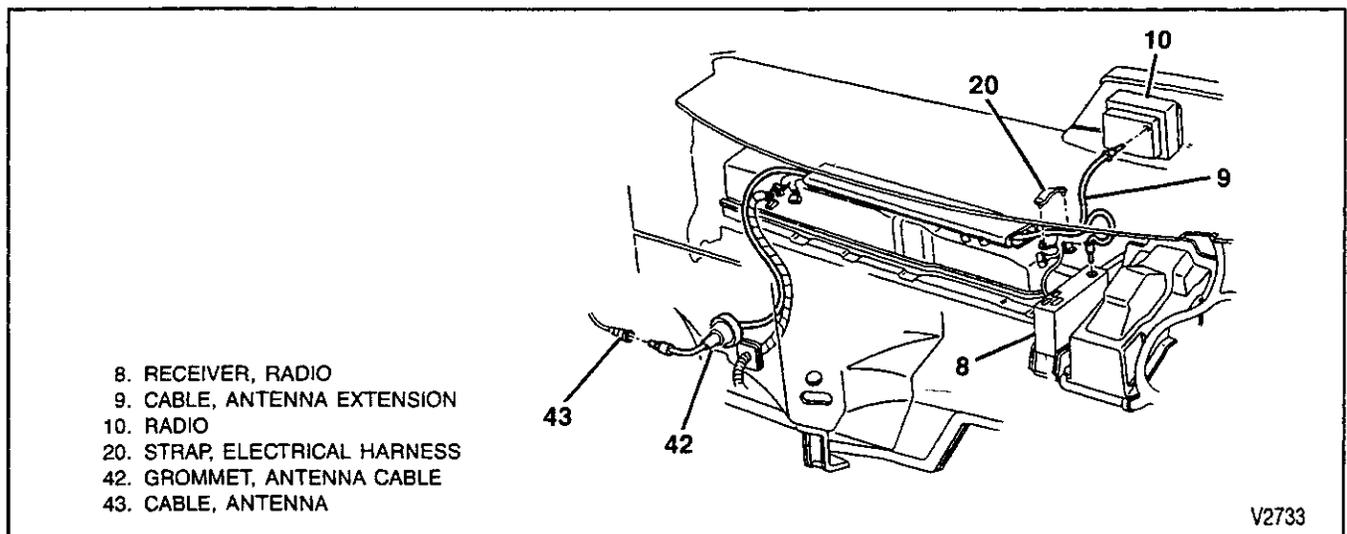

Figure 36—Antenna Extension Cable Routing
**←→** Remove or Disconnect (Figures 36 and 37)
1. Antenna mast (44).
2. Nut (47).
3. Bezel (45).
4. Antenna cable (43) from extension cable (9).
**→←** Install or Connect (Figures 36 and 37)
1. Antenna cable assembly (43).